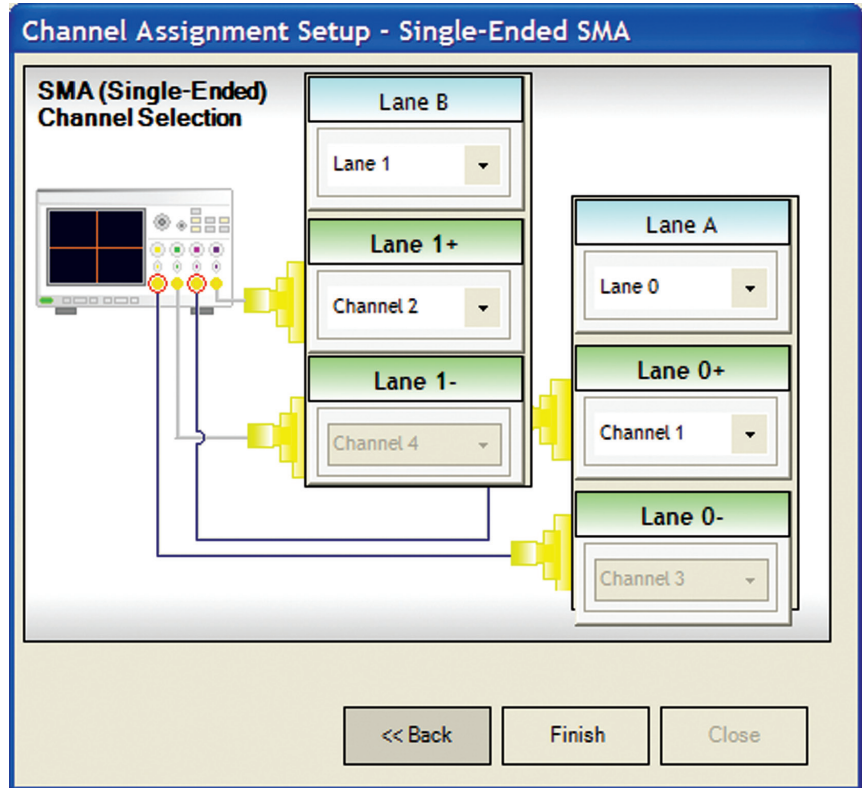

Figure 5. Channel Assignment Setup: Lane and oscilloscope assignment: 2 Lane Single-ended Connection using all four scope channels.
- Oscilloscope Connection: this screen allows you to assign oscilloscope channels and device lanes to test. See Figure 5.
The final screen in the Test Setup loop is the Channel Assignment Setup (shown in Figure 5). It will portray the connection expected in number of channels and type of connection requested. It is editable and if there are channel assignment conflicts, the user is alerted to the fact.